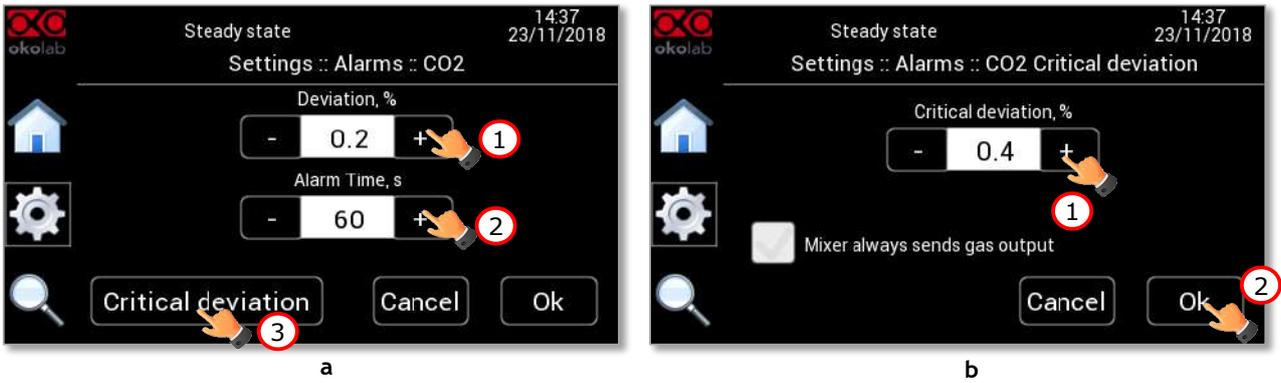

Figure 70. How to set the Deviation and Time Alarm (a – b).
2. Insert the *Deviation %* value by pressing the +/- icons (1 in Figure 70 a).
3. Insert the *Alarm Time* by pressing the +/- icons (2 in Figure 70 a).
4. Press on *Critical deviation* button (3 in Figure 70 a) to set the CO₂ critical deviation and insert the Critical deviation % value by pressing the +/- icons (1 in Figure 70 b).
5. Press Ok to save (2 in Figure 70 b).